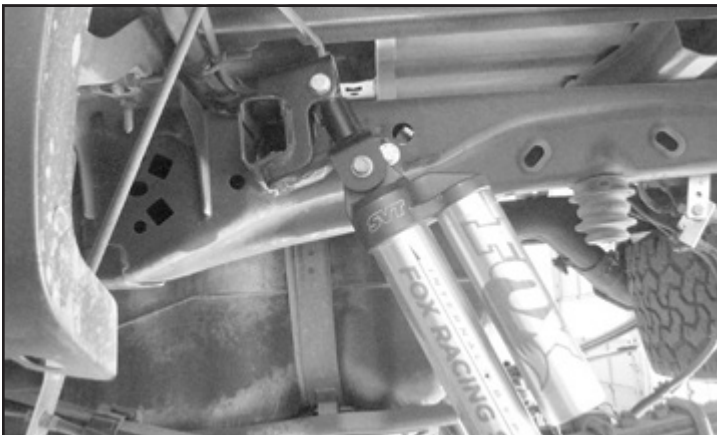

FIGURE 62 - STEP 57
52. Locate the factory brake line mount on the driver side of the frame. Locate the Fabtech brake line bracket (FT70033) and attach the bracket between the factory frame mount and the factory brake line. **SEE FIGURE 62**